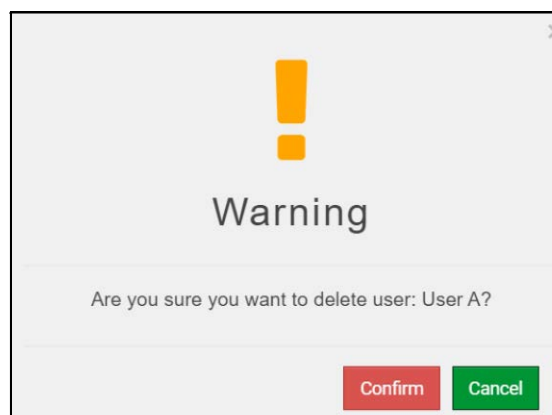

Figure 35. Delete User Warning
- When the warning message appears, click **Confirm** (see Figure 35).